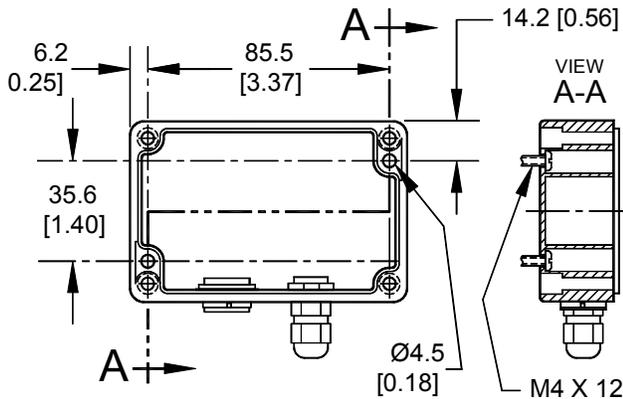

Figure 3.
See Figure 3 for mounting hole drilling dimensions. Mount with two (2) M4x12mm socket-head cap screws. (Mounting screws NOT supplied.)